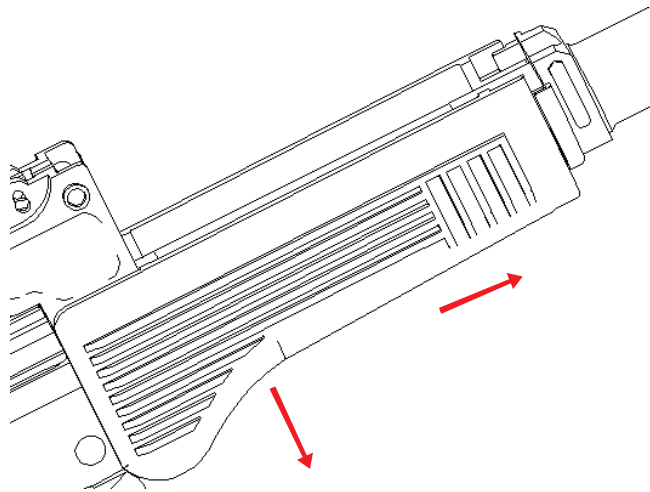

Fig. 16 Removing Lower Handguard
3. Push the hand guard towards the muzzle to disengage it from the receiver body and pull it downward to remove it (see Fig. 16).